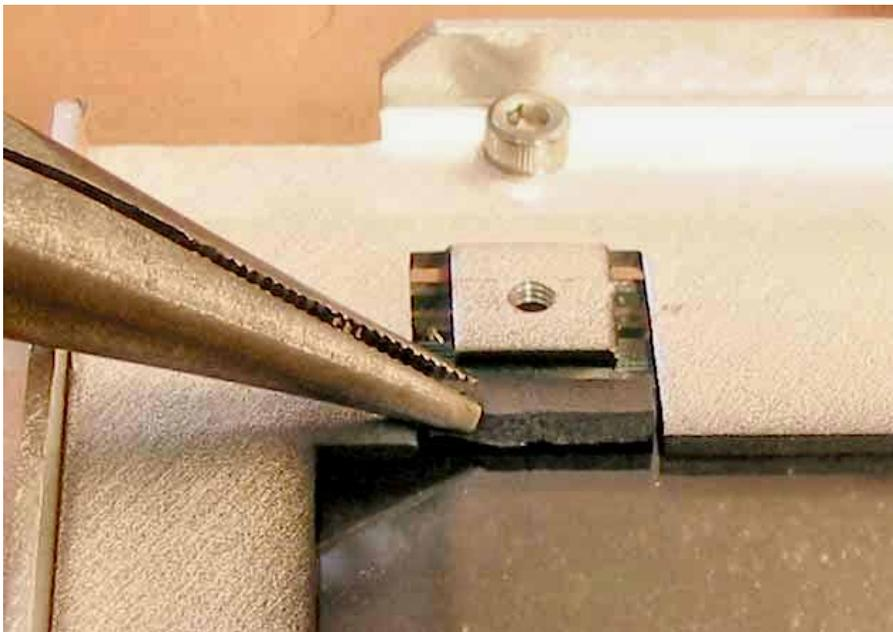

Figure 10-10: Installing the GUI Dust Gaskets
4. Place the four foam pieces on the LCD (Figure 10-10 and Figure 10-11).